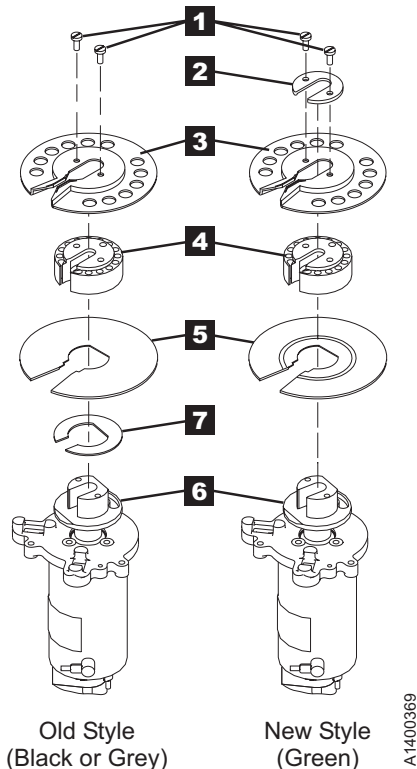

Figure 10-57. Machine Reel Hub Assembly
1. There are 3 levels of machine reel hub assemblies. See Figure 10-57.
Note: The new style green lower flange has a groove on one side of the flange. See item **5** Figure 10-57 on page 10-84. **Ensure the groove is on the top, as shown.**